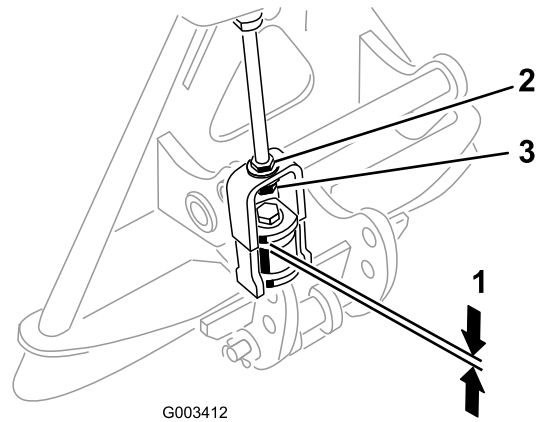

Figure 16
9. With the rake mounted and secured on the traction unit, measure the gap between the top washer and the spacer in the link assembly on the attachment adapter as shown in Figure 16.
The gap between the washer and the shoulder should be 0.060 to 0.080 inch (Figure 16).
10. If the gap is not correct, loosen the jam nut and tighten or loosen the adjustment nut on the link assembly as needed to change the gap (Figure 16).